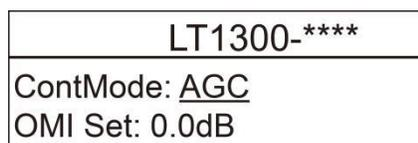

Figure 7.2.9
(1) Working mode setting: In this interface, the "\*" on the far right side is on the same level as 3-1, which means that 3-1 enters the pre-set state. At this time, press the ↵ key to underline the current working mode. As shown in Figure 7.2.9: